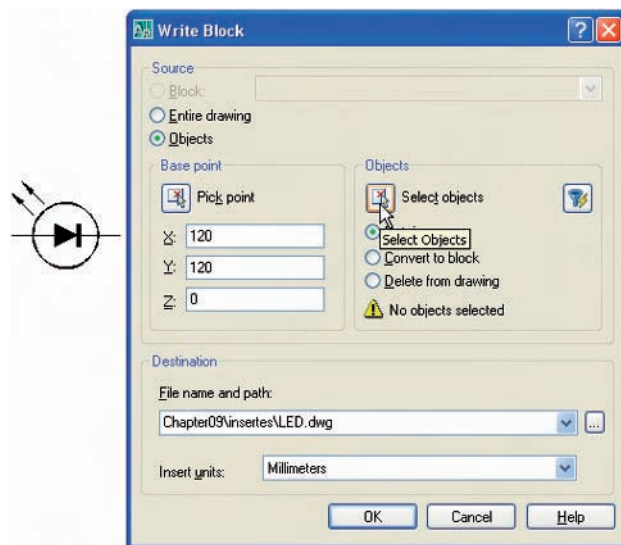

Fig. 9.20 Example – **Wblock**
Example – wblock (Fig. 9.20)
1. Construct a light emitting diode (LED) symbol and *enter w* at the command line. The **Write Block** dialog appears (Fig. 9.20).